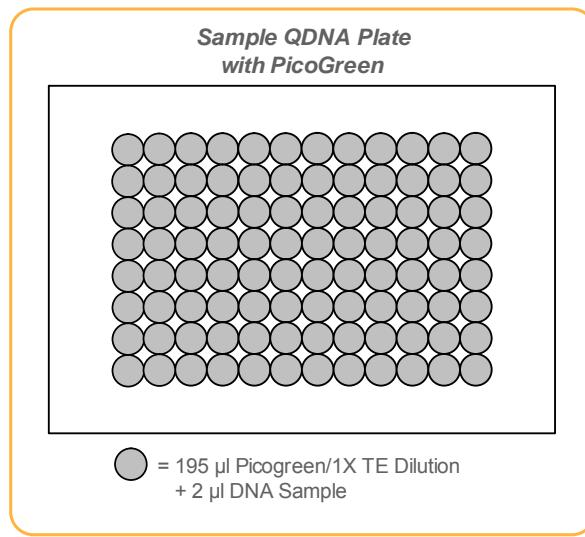

Figure 13 Sample QDNA Plate with PicoGreen
1. Transfer 195 µl of the PicoGreen/1X TE dilution that you made earlier into each well of the new black flat-bottom plate labelled "Sample QDNA" (Figure 13).